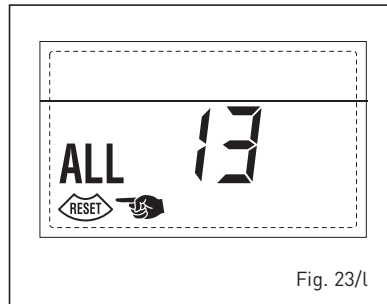

Fig. 23/l
**- ANOMALÍA SONDA HUMOS "AL 14" (fig. 23/m)**